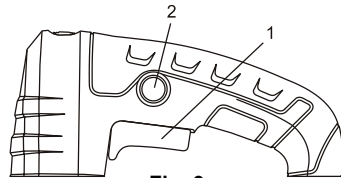

Fig. 9
Your jigsaw is equipped with a lock-on feature, which is convenient when continuous cutting for extended periods of time is required (Fig. 9). To lock the switch ON, depress the trigger switch (1), push in and hold the lock-on button (2) located at the left side of the handle, then release the trigger. Release the lock-on button and your jigsaw will continue running. To turn the jigsaw OFF, depress and release the trigger switch to release lock.